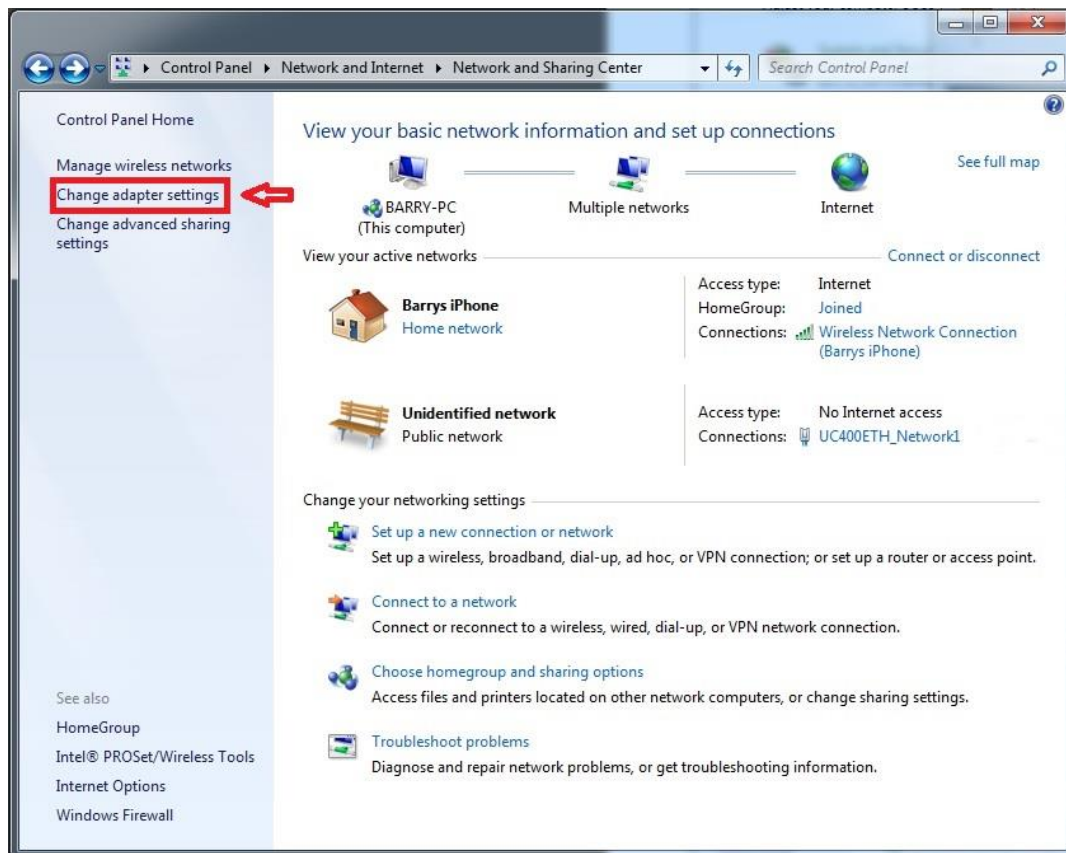

Figure 14: Networks and sharing centre – Change Adapter Settings
- 3- Rename the connection by clicking the change adapter settings on the left side of the window. See Figure 14.